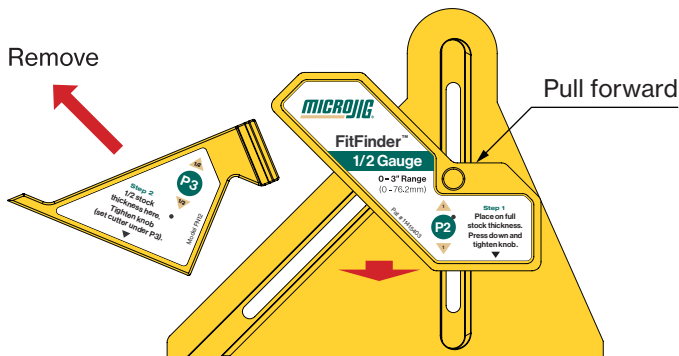

Fig 5b - Remove P3
- E.2.** Pull P2 forward to disengage the sliding joint and remove P3 [Fig 5b].